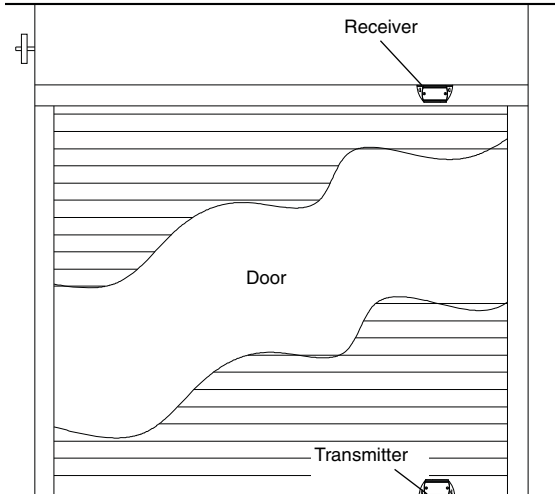

FIGURE 4
1. Both units must be located on the same side of the door. There must be a clear line of sight between the units throughout door/grill range of travel (Refer to page 3, figure 4).
1. Attach receiver unit near motor operator by pre-drilling guide holes and using #8 or #10 fasteners (Refer to page 3 figures 4 & 5).